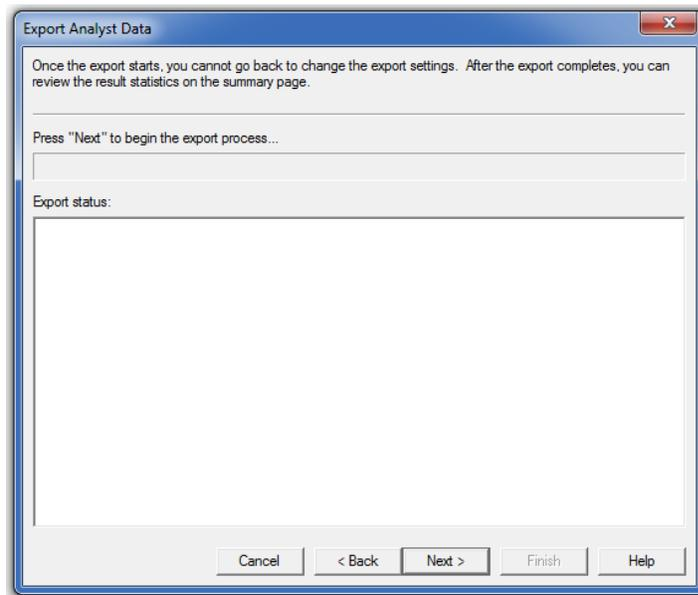

Figure 12. Start the export
12. Click **Next >** to start the export. [Figure 12]